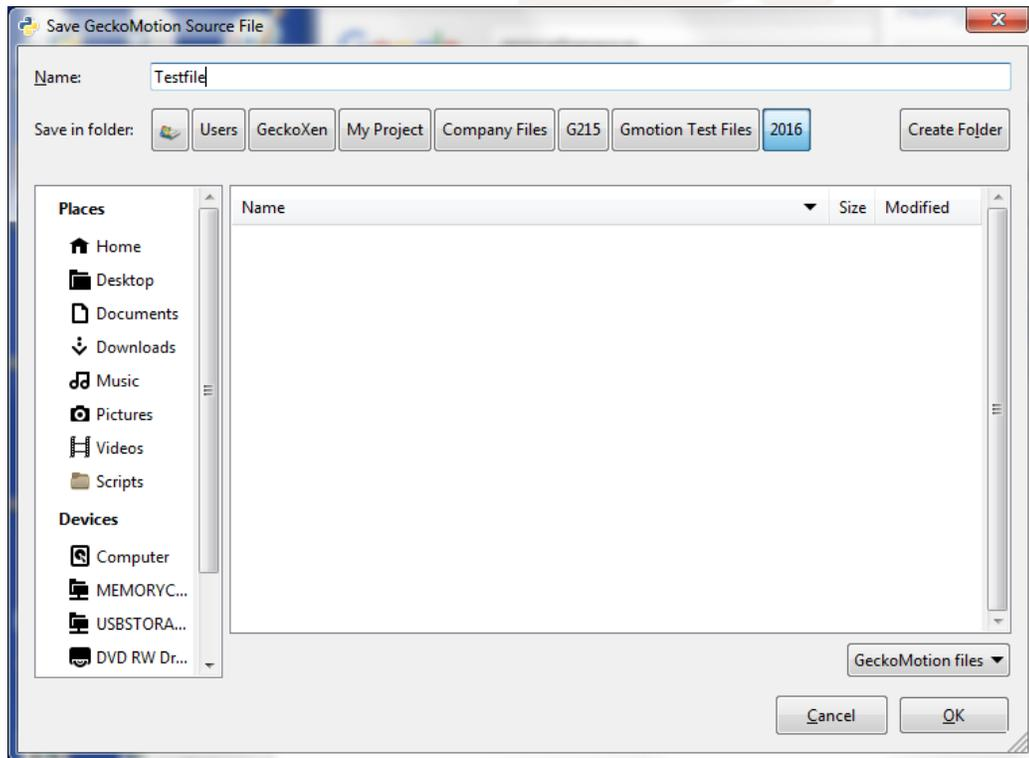

Figure 12: How to save and rename a file.
4.2 To save and rename a file: In the menu, click **File** and then select **Save**. This will open Save GeckoMotion Source File window (see Figure 12).
- Type in the new file name, e.g., **Name: Testfile** (see Figure 12).
- Select file type: keep this file type default setting: **GeckoMotion files** (see Figure 12).